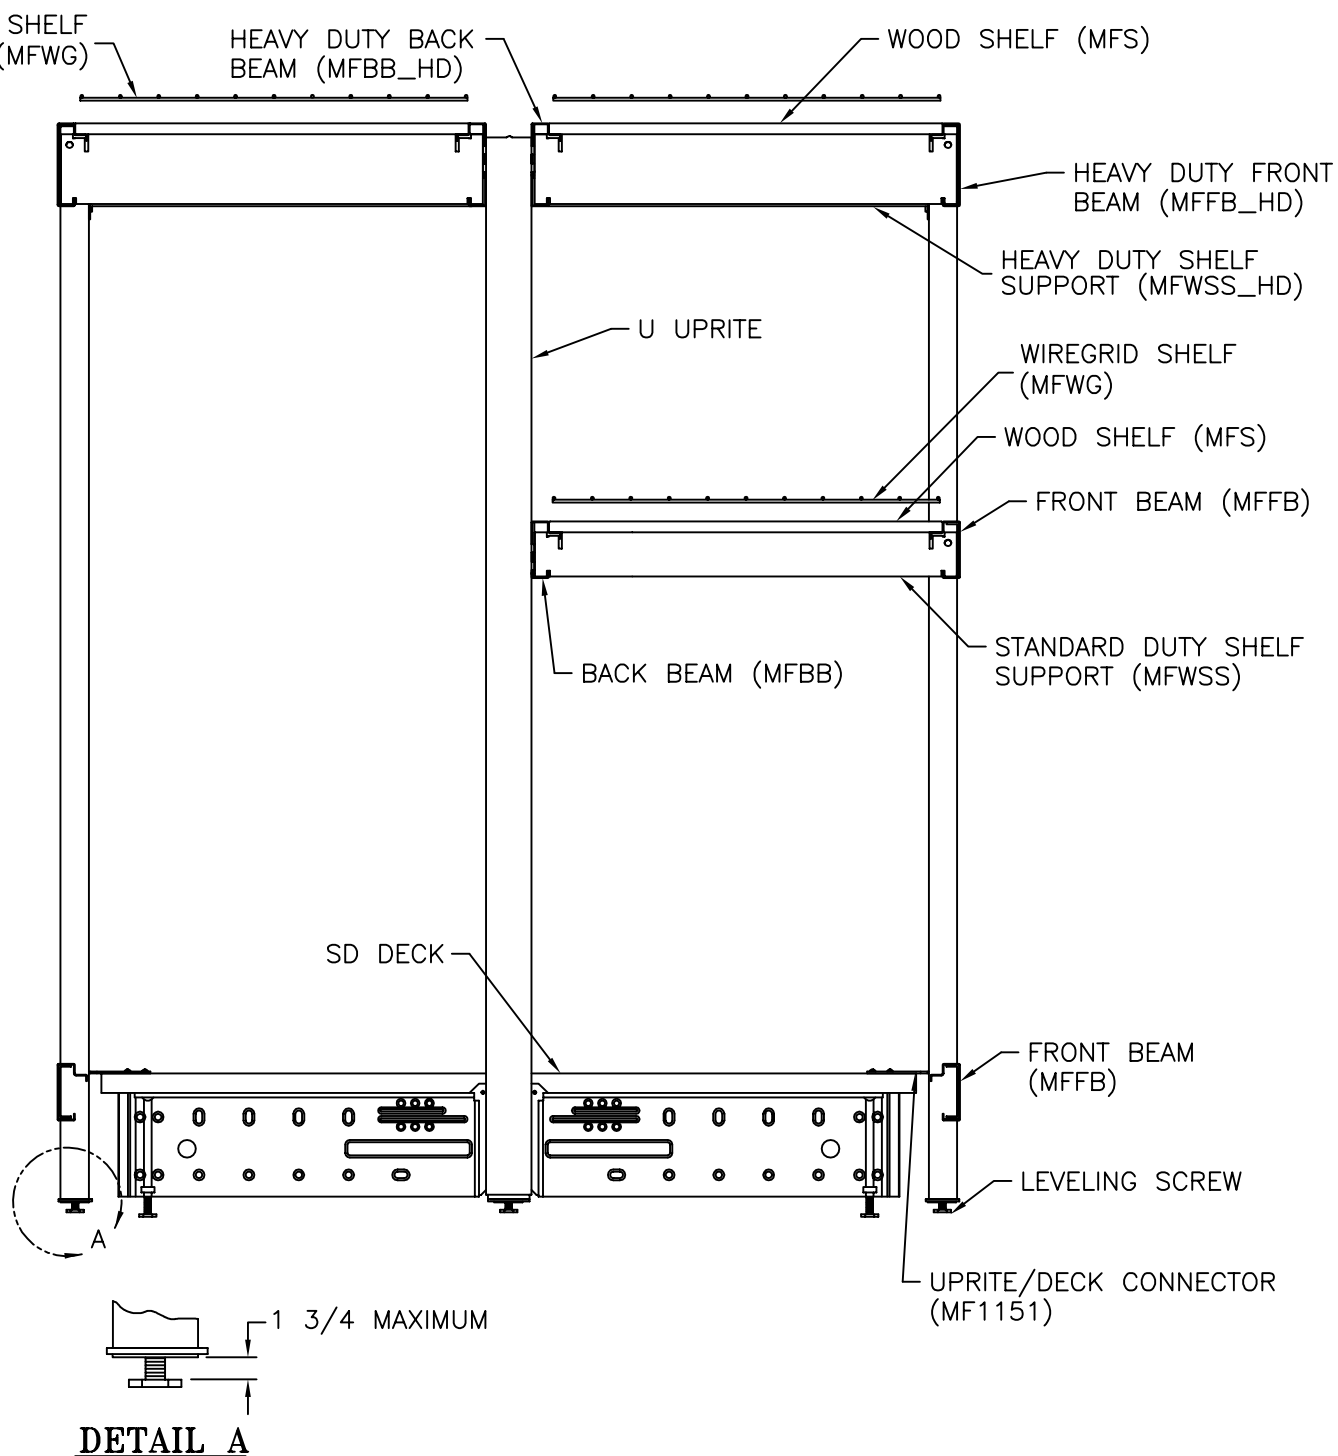

FIGURE 5
NOTE: A minimum of one Multi-Function Shelf must be used (at the top) for stability and proper spacing of MF Uprite. (SEE FIGURE 5)
- d) Place the Multi-Function Wood Shelf (MFS) or Wiregrid Shelf (MFWG) between the Beams. Corner notches on the Wood Shelf fit around the MF Uprite. (SEE FIGURE 5)